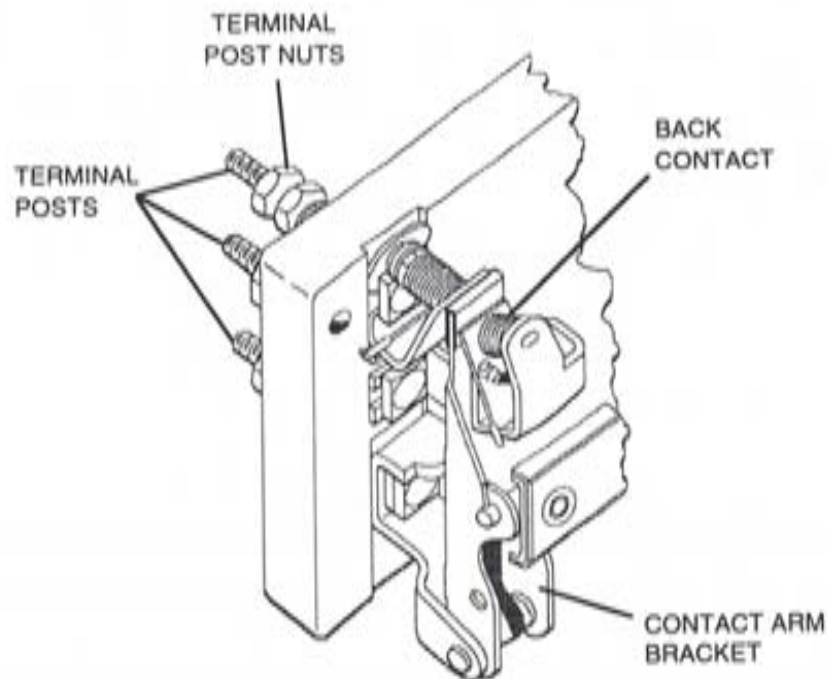

Figure 5-2. Back Contact
2. Loosen terminal post nuts (middle row), holding back contact to terminal block (Figure 5-2).